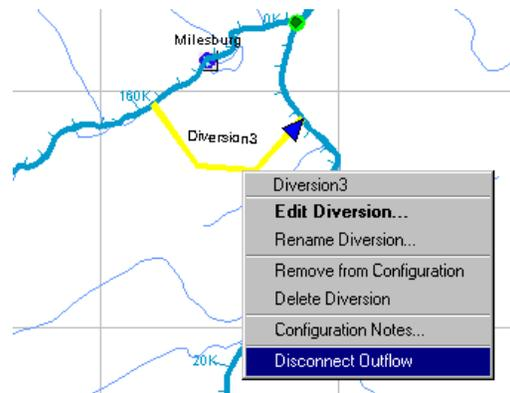

Figure 6.15 Disconnecting an Outflow - Diversion Shortcut Menu
2. Right-click on a Diversion that is connected to another location and select **Disconnect Outflow** from the shortcut menu (Figure 6.15).